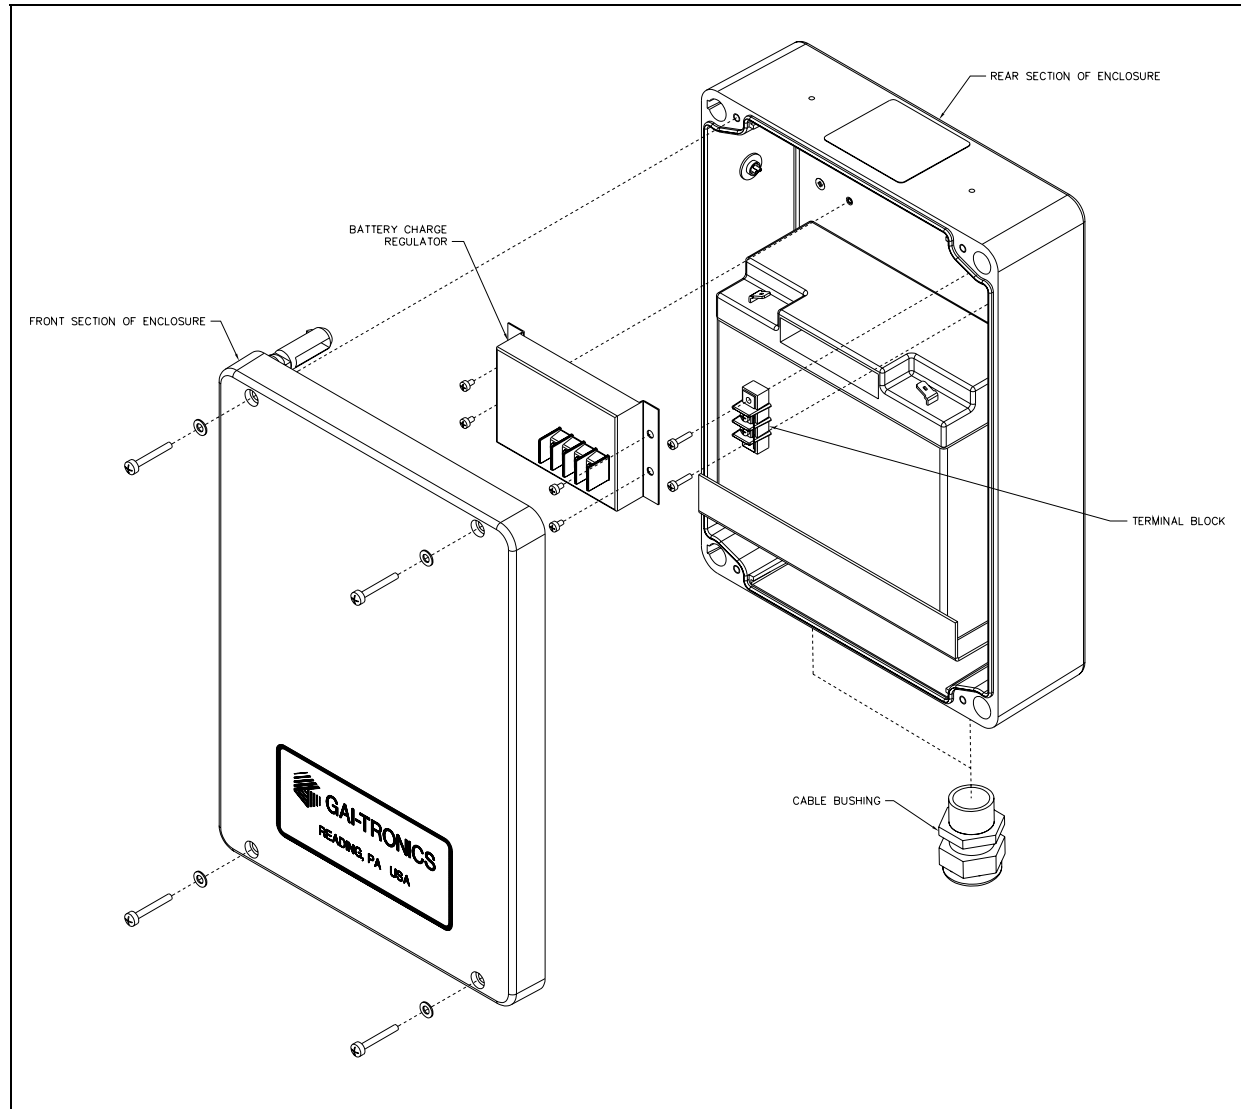

Figure 1. Exploded view of the External Battery Enclosure with Charge Regulator Module
1. Referring to Figure 1, remove the four screws from the front of the XB001 enclosure (mounted or not mounted). Open the front cover to the left and pull straight out until the hinge pins separate from the rear section. Set the front door of the enclosure aside.